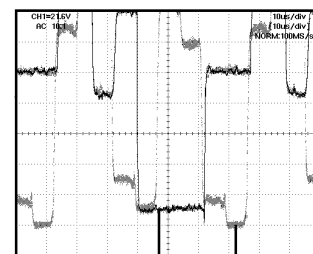

Fig. 2-2
9. Press the VOL. UP/DOWN button on the remote control until the red color level is adjusted to  $115 \pm 10\%$  of the white level. **(Refer to Fig. 2-2)**